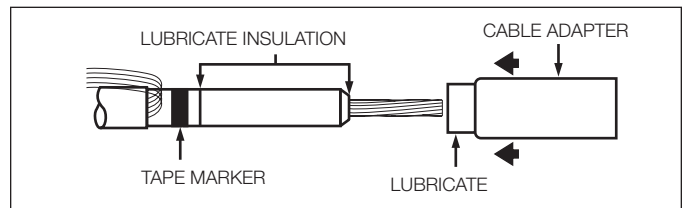

Figure 8.
- Slide small end of cable adapter over cable using twisting motion until small end is flush with tape marker. (Refer to Figure 8.)